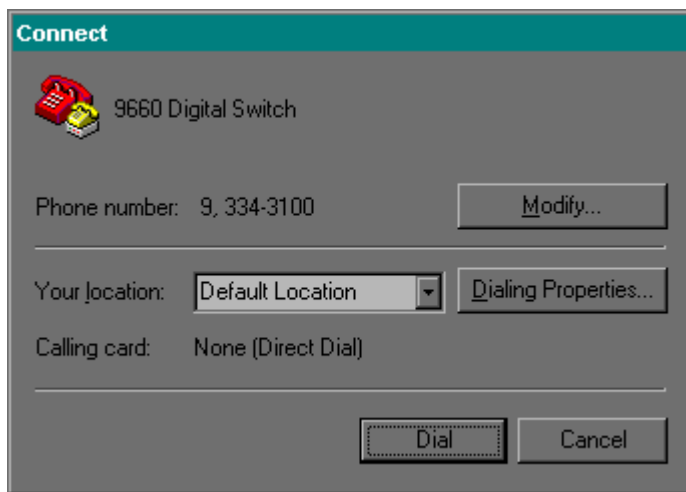

Figure 4-10. Connect window
5. Enter the area code and phone number of the line to which your RFL 9660 Digital Switch is connected. In the "Connect using" box, enter the complete name of the modem you will be using, for example: US Robotics Sportster 14,400. Then click on OK. This will bring you to the Connect window as shown in Figure 4-10.